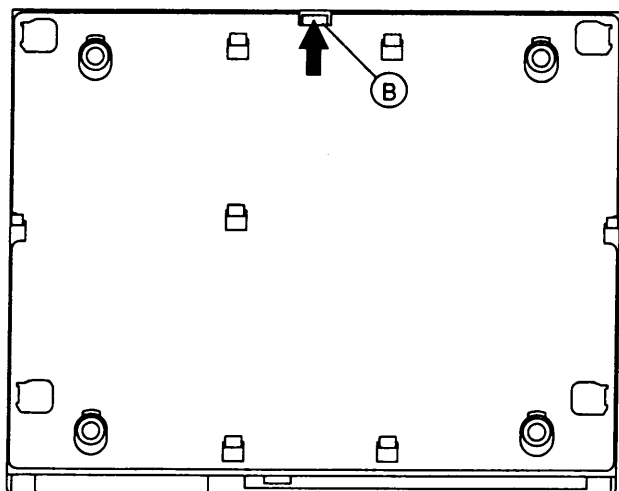

Fig. 2
- Rastnase (B) lösen (Fig. 2).
- Release the locking lug (B) (Fig. 2).